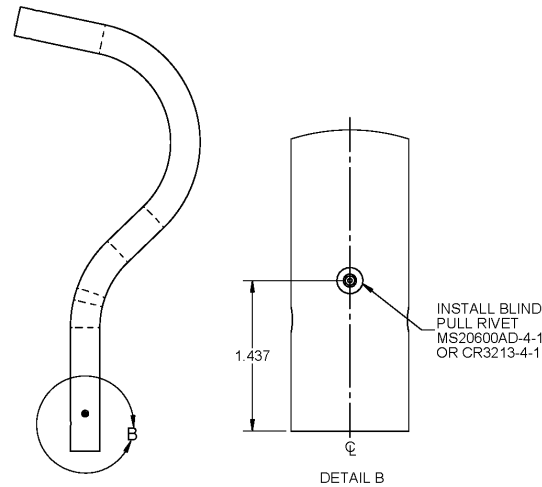

FIGURE 17: RIVET INSTALLATION
- 5.3.5** If no rivet is present, install one MS20600AD-4-1 or CR3212-4-1 in pre-drilled hole, as shown in Figure 17.